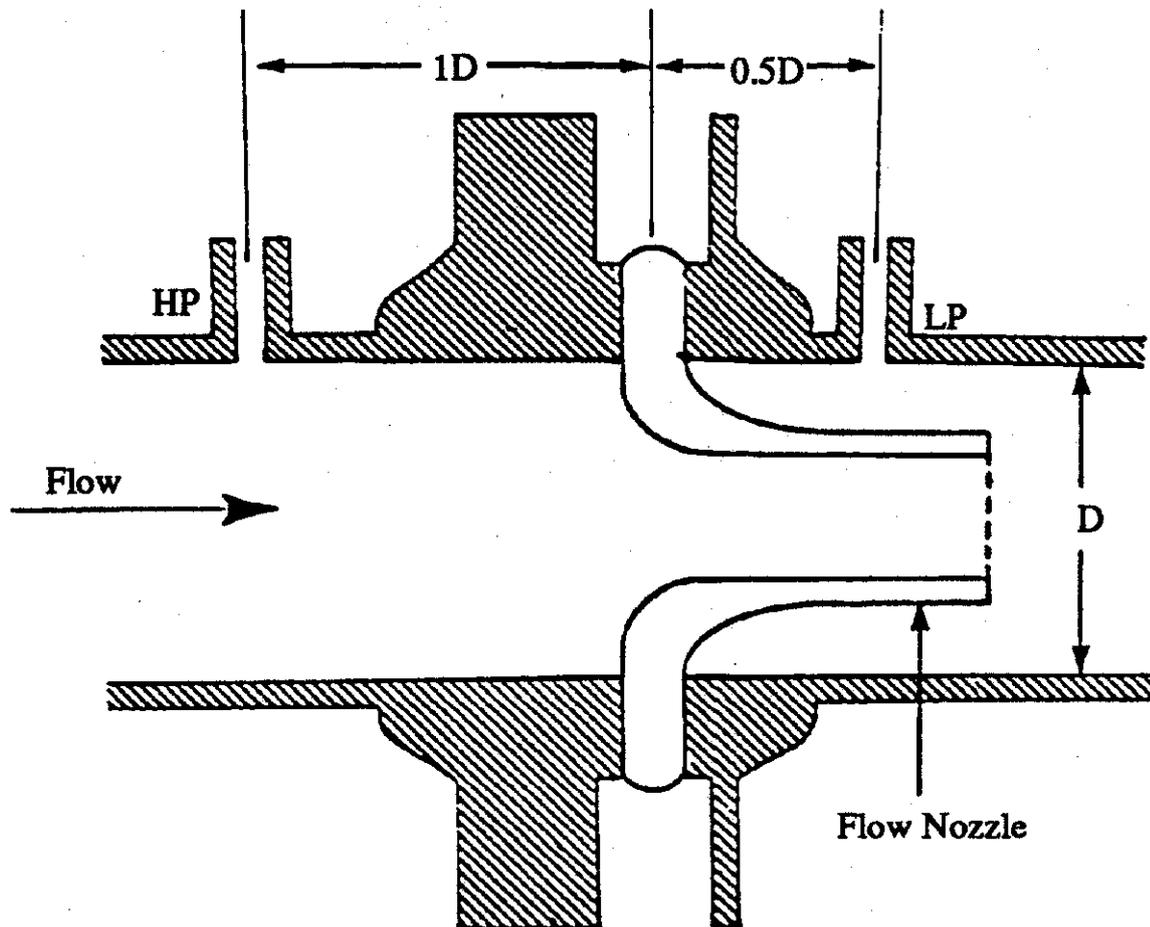

Figure 8: Representative Flow Nozzle Installation.
- A flow nozzle is also called a half venturi with flow characteristics between an orifice plate and a venturi tube. Figure 8 shows a typical flow nozzle installation.